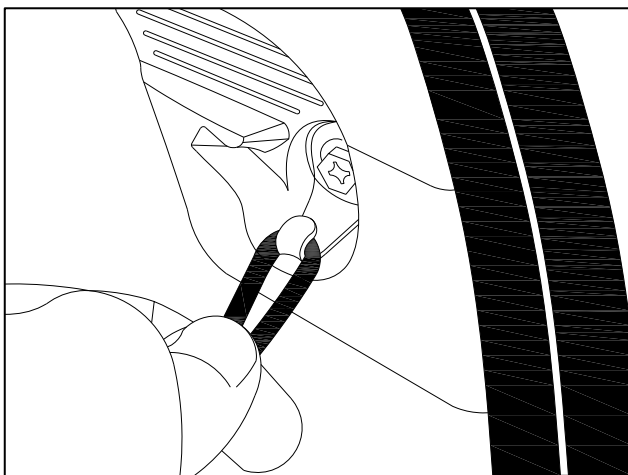

Fig. 2-2
- (b) Install the upper bungee loop over the passenger side hook as shown. (Fig. 2-2)